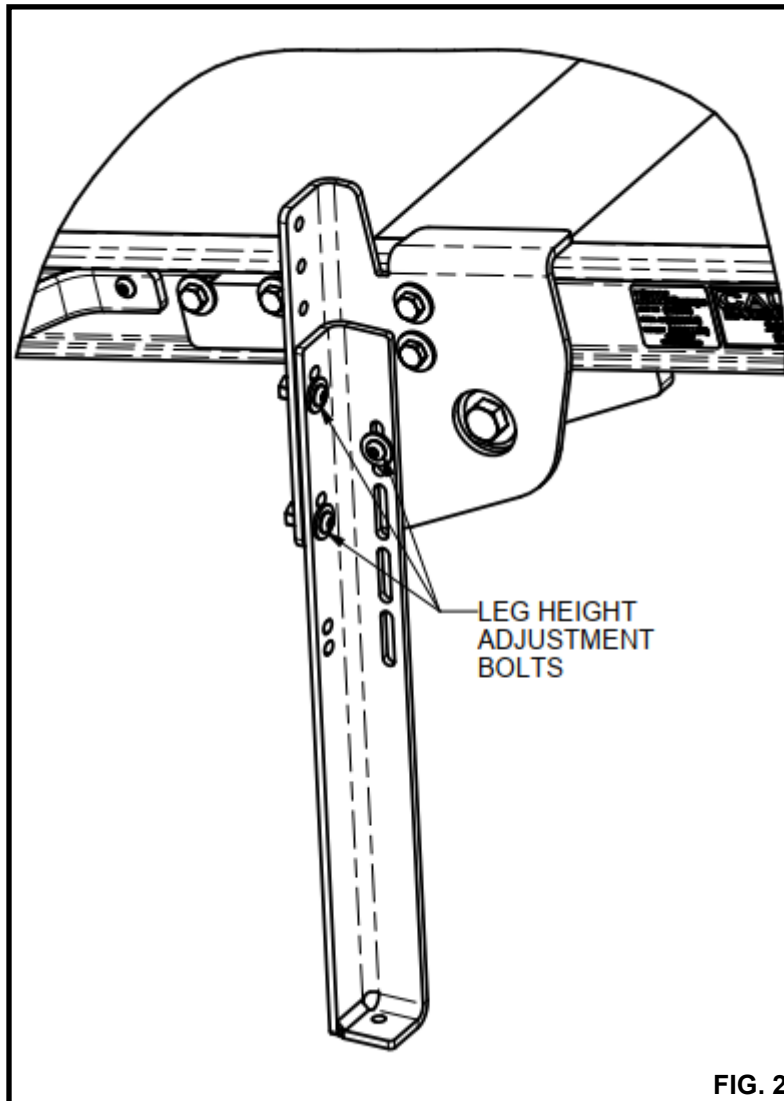

FIG. 2
3. Remove the (3) 1/4" bolts holding the leg to the leg mount (See Fig. 2). Repeat on the opposite side of the ramp.
5. Raise the leg to the closest mount hole and reattach it to the leg mount using the (3) 1/4' bolts.